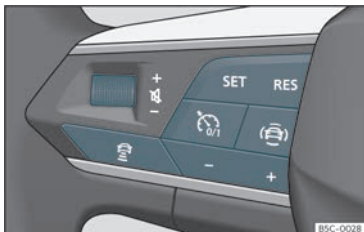

Fig. 159 On the multifunction steering wheel: buttons to operate the ACC
Your vehicle has ACC if it has a configuration menu in the infotainment system»» page 88 and if it has the ACC function buttons on the multifunction steering wheel»» Fig. 159.
- To start regulation, press the button **SET** >>> **Fig. 159**.
To program the speed, press the + or – >>> **Fig. 159** buttons to the desired speed. The speed is adjusted at intervals of 10 km/h (5 mph).
- Press the button  and then the button + or – >>> **Fig. 159**.